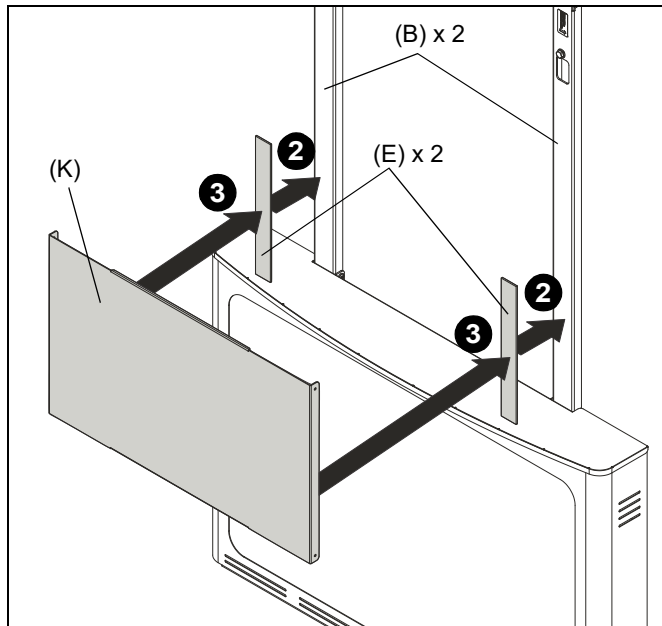

Figure 20
2. Install two magnetic tape strips (E) onto top uprights (B) by removing adhesive cover to permanently secure them to uprights. Strips (E) should be located approximately 1" above base cover (C). (See Figure 20)
3. Place mid cover (K) onto two magnetic strips (E). (See Figure 20)